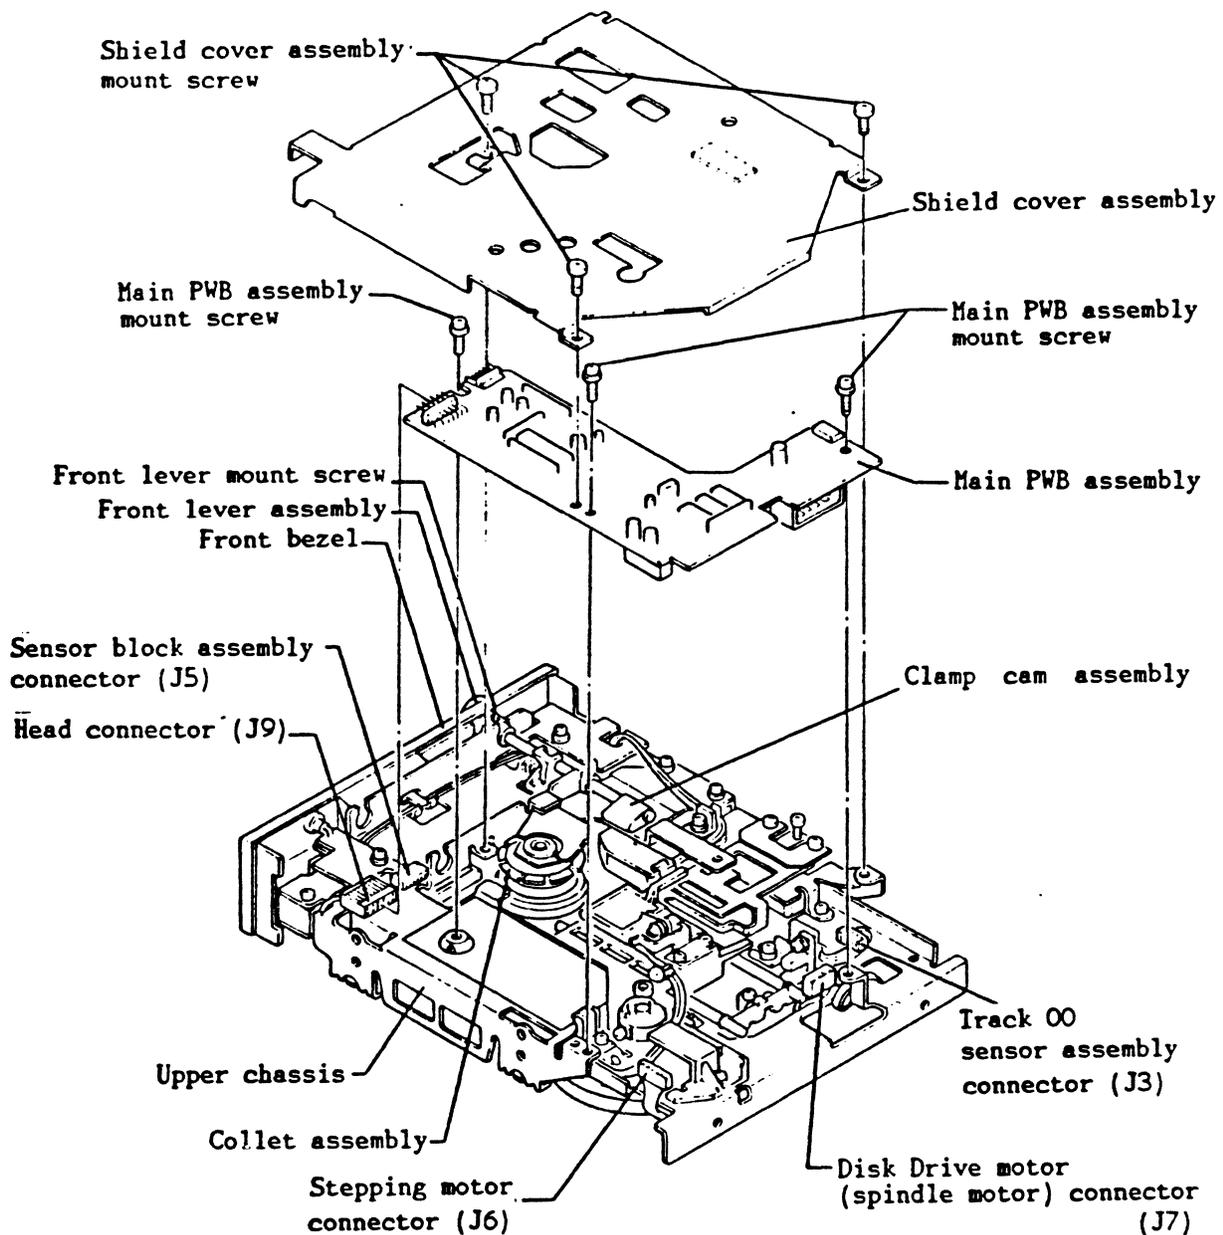

Fig. 501 External Appearance Drawing (1)
The F-5002, F-5004 include the following main components. (Refer to Fig.501~Fig.504) For a detailed parts breakdown, see items 5-2 and 5-3.